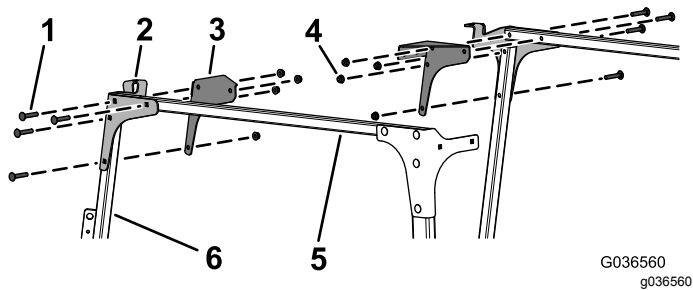

Figure 9
8. Loosely install the left and right front plates and corner gussets to the crosslink tubes and the left and right windshield supports using 8 carriage bolts (5/16 x 1-3/4 inches) and 8 flange nuts (5/16 inch) as shown in Figure 9.